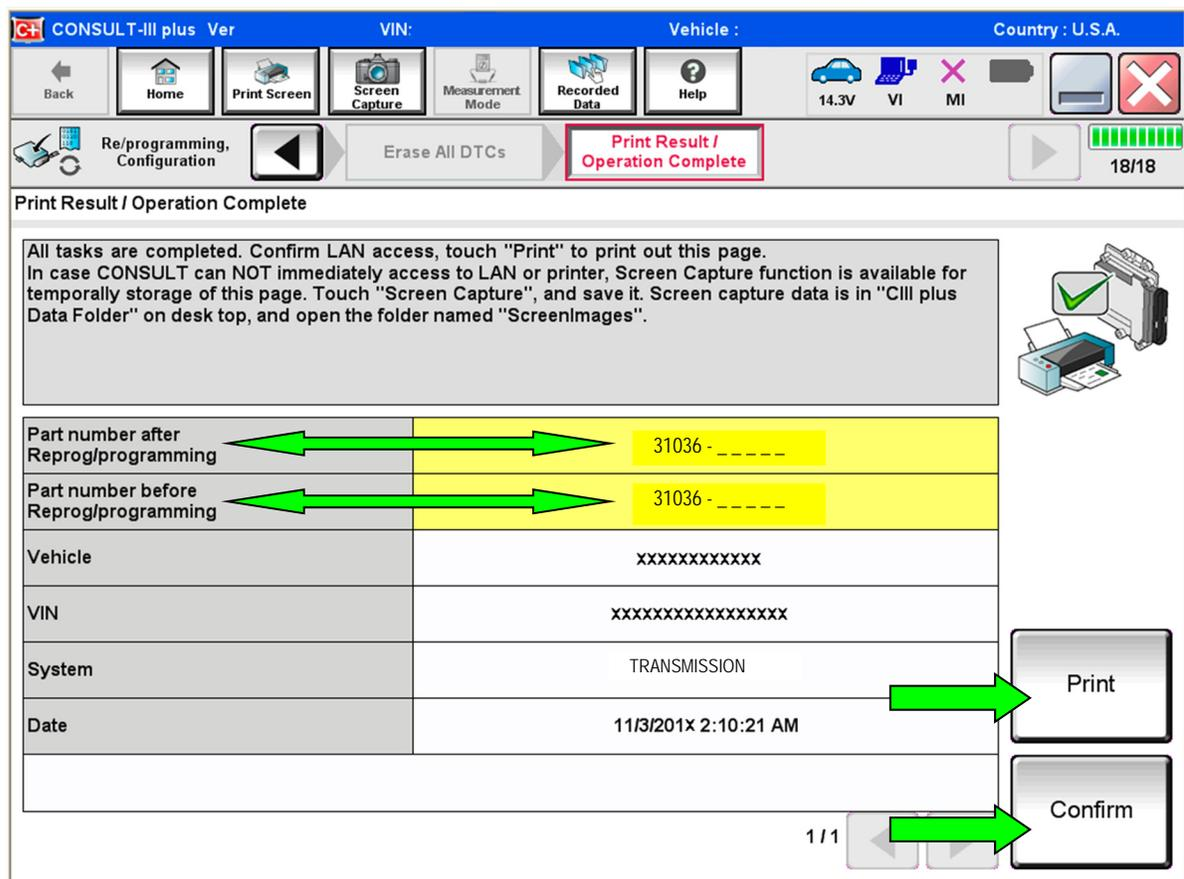

Figure 9
13. When the entire reprogramming process is complete, the screen in Figure 9 will display.
15. Print a copy of this screen (Figure 9) and attach it to the repair order for warranty documentation.